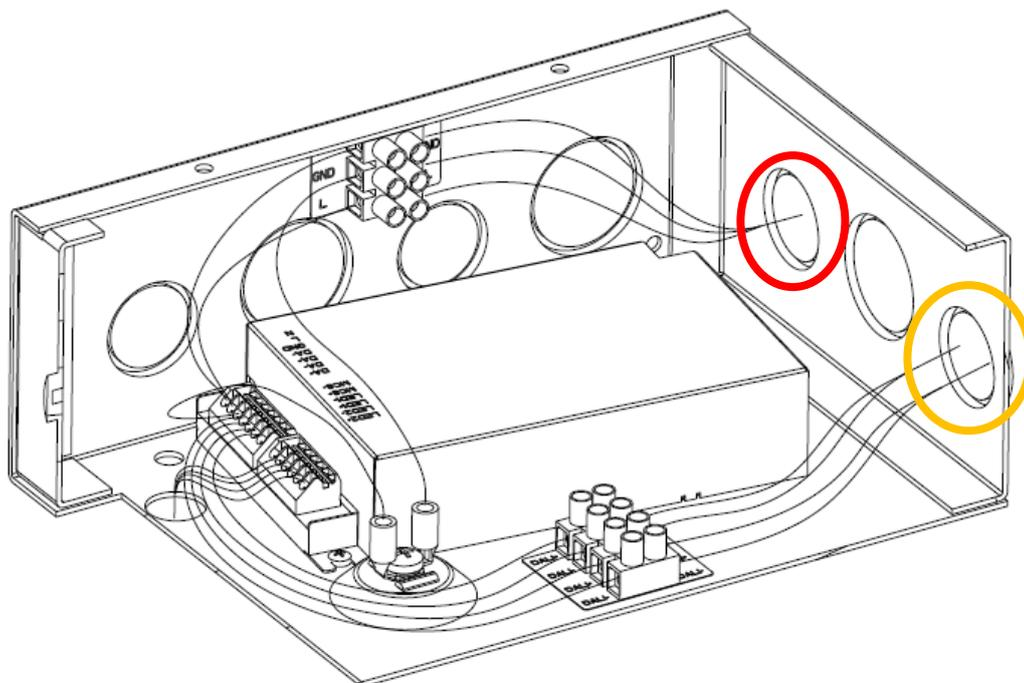

Fig. 19 Junction box. Red circle: exit for supply cables
- B. Open the knock-out opening shown by the red circle in Figure 19 and pass through the external supply cables.
- A. Open the knock-out opening shown by the red circle in Figure 19 and pass through the external cables for the DALI/SwitchDIM signal in the same way as for the supply cables.
- B. For each cable gland, press open only one of the openings shown in Figure 19 (if you are not using the DALI/SwitchDIM functions, only press open the supply opening).